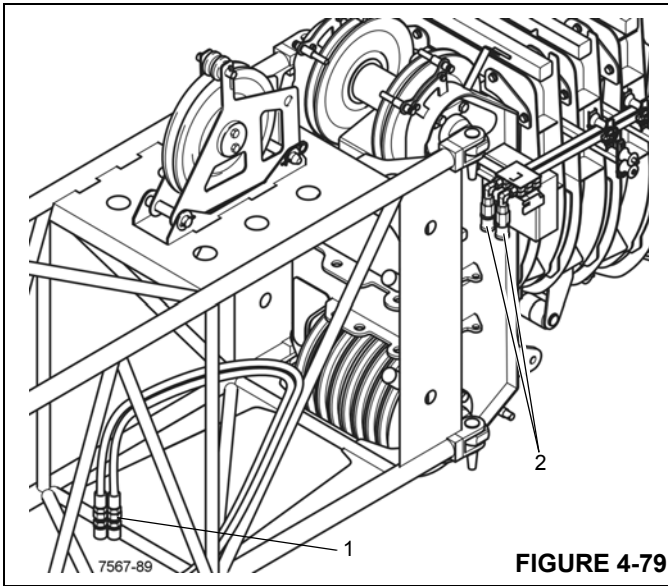

FIGURE 4-79
5. Disconnect the short end hoses (1) (Figure 4-79) from the 26 ft (8 m) extension from the boom nose connectors (2).